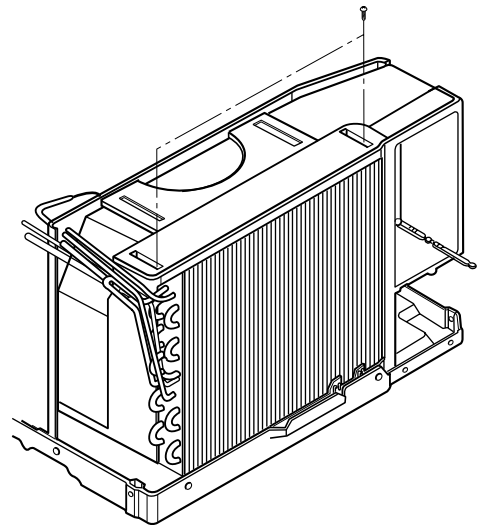

Figure 32
6. Re-install the component by referring to notes. (See Figure 32)
Figure 32 is a brief description of the important components and their function in what is called the refrigeration system. This will help you to understand the refrigeration cycle and the flow of the refrigerant in the cooling cycle.